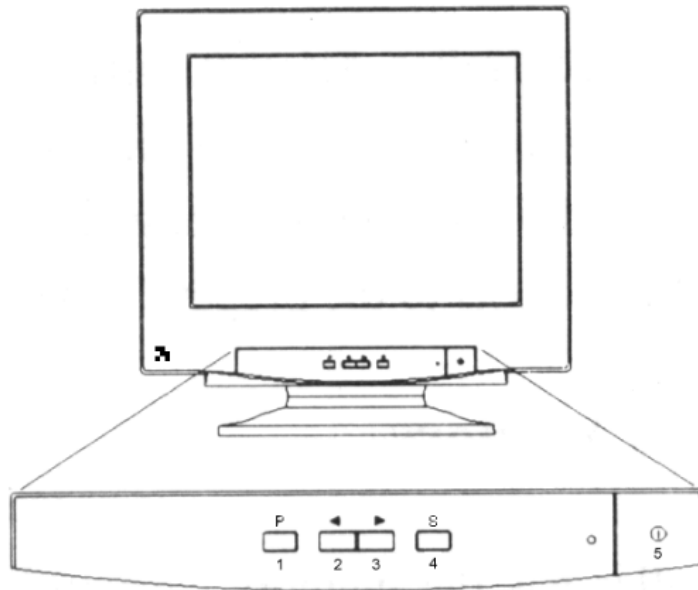

Figure 3: Operating buttons
1. Switch on your PC. Then switch on the monitor by pressing the power switch (figure 3, button 5). The green indication lamp comes on. After a few seconds, an image will appear on your monitor.
2. If you want to switch the monitor off, press the power button again (figure 3, button 5).